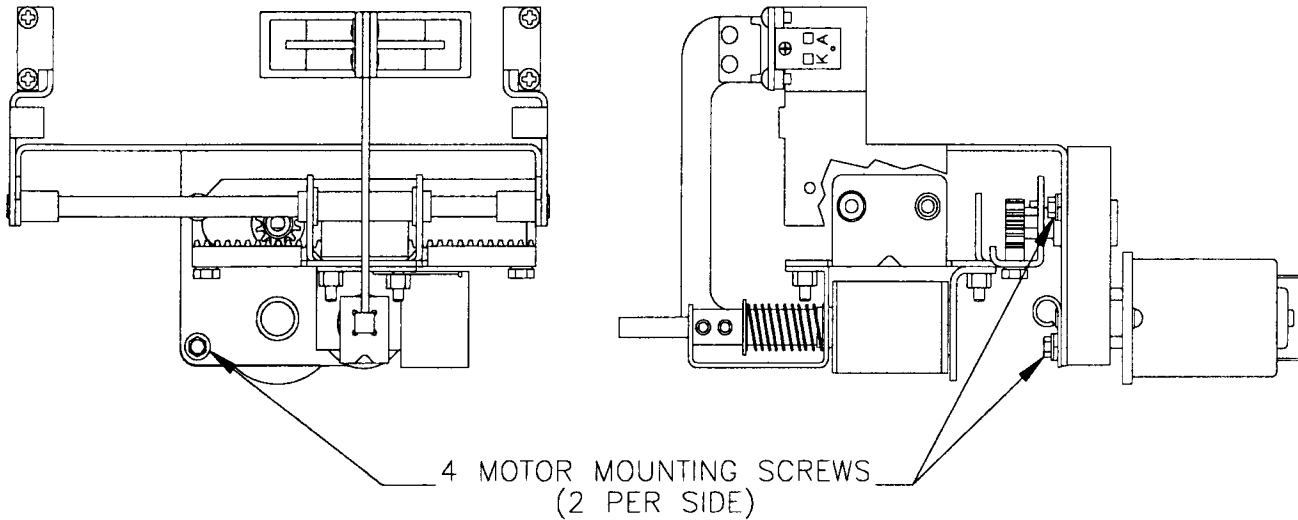

Fig. 6
f. Reassemble kicker assembly and remount using the four (4) #8 ESNA nuts making sure coil wire guard is re-inserted before nut is secured tight.
- b. Remove four (4) motor mounting screws. Motor can now be removed. (See Fig. 6)